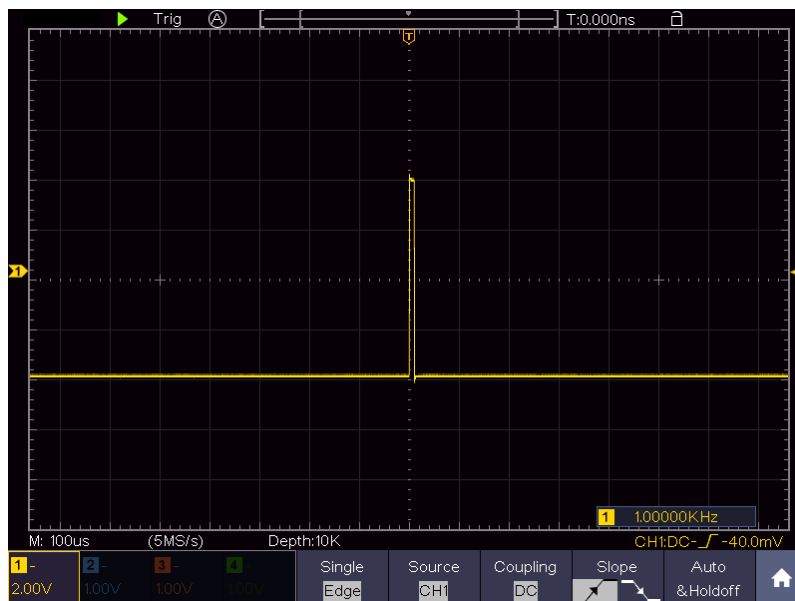

Figure 7-3 Capturing a Single Signal
- (2) Push **CH1** button to select CH1, adjust the **Vertical Scale** and **Horizontal Scale** knobs to set up a proper vertical and horizontal ranges for the signal to be observed.
- (3) Push the **Acquire** button to display the Acquire menu.
- (4) Select **Acqu Mode** in the bottom menu. Select **Peak Detect** in the right menu.
- (5) Push the **Trigger Menu** button to display the Trigger menu.
- (6) Select the first menu item in the bottom menu. Select **Single** in the right menu.
- (7) In the left menu, select **Edge** as the mode.
- (8) Select **Source** in the bottom menu. Select **CH1** in the right menu.
- (9) Select **Coupling** in the bottom menu. Select **DC** in the right menu.
- (10) In the bottom menu, select **Slope** as  (rising).
- (11) Turn the **Trigger Level** knob and adjust the trigger level to the roughly 50% of the signal to be measured.
- (12) Check the Trigger State Indicator on the top of the screen, if it is not Ready, push down the **Run/Stop** button and start acquiring, wait for trigger to happen. If a signal reaches to the set trigger level, one sampling will be made and then displayed in the screen. By using this approach, a random pulse can be captured easily. For instance, if we want to find a burst burr of high amplitude, set the trigger level to a slightly higher value of the average signal level, push the **Run/Stop** button and wait a trigger. Once there is a burr occurring, the instrument will trigger automatically and record the waveform during the period around the trigger time. By turning the **Horizontal Position** knob in the horizontal control area in the panel, you can change the horizontal triggering position to obtain the negative delay, making an easy observation of the waveform before the burr occurs (see *Figure 7-3*).